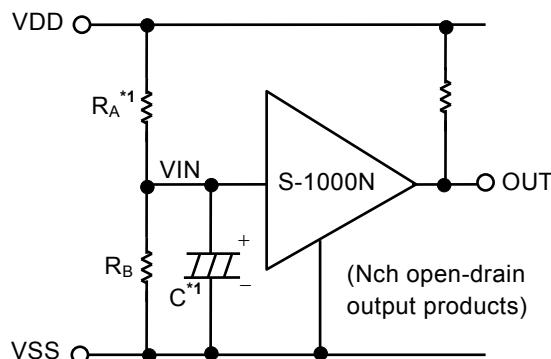

Figure 28
**Remark** When the power rises sharply as shown in the **Figure 28** left, the output may go to the high level for an instant in the undefined region where the output voltage is undefined since the power voltage is less than the minimum operation voltage.